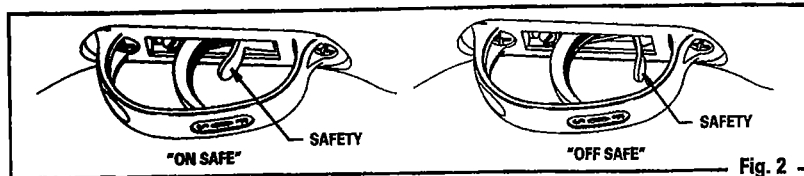

Fig. 2
- Locate the safety in front of the trigger. Push the safety towards the trigger to put the safety on. The safety is on, and the airgun is "ON SAFE" when the lever is in the rear position (near the trigger). (Fig. 2)
- Push the safety to the forward position (away from the trigger). When the airgun is "OFF SAFE" it is ready to be fired. (Fig. 2)